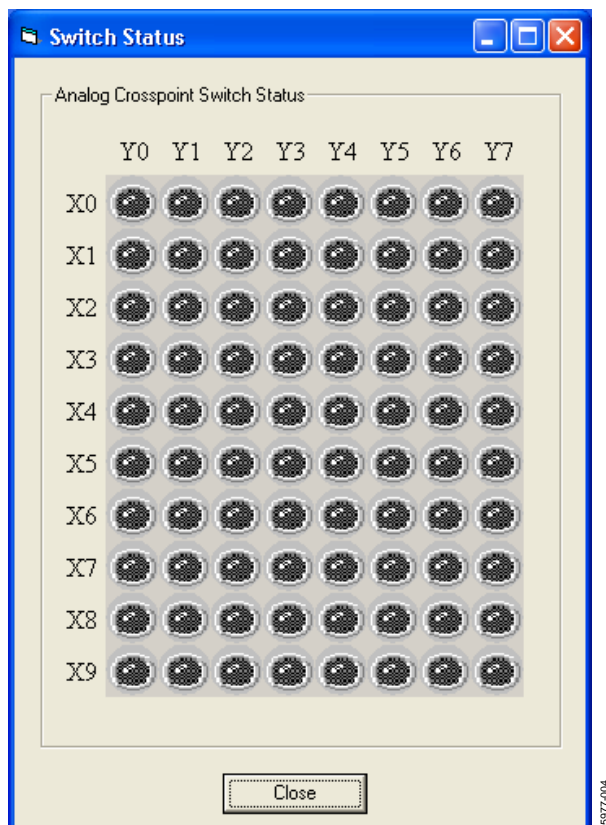

Figure 4. LED Display Showing Condition of All Switches
4. The **Switch Status** dialog box then appears (see Figure 4). This indicates if a switch is on (LED lit) or off (LED not lit).
3. Note that if the **Switch Status** dialog box (see Figure 4) is showing when the **RESET** button on the board is pushed, the **Close** button needs to be clicked. Then, click the **Switch Status** button to re-open the dialog box for the LED display to accurately reflect the switch states.